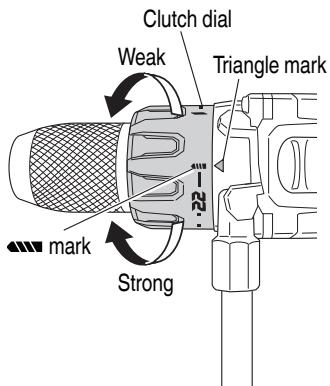

Fig. 16
7. Confirm the clutch dial position (See Fig. 16). <DS18DBL2>
(2) Tightening torque indication (See Fig. 16, 18)
(3) Adjusting the tightening torque (See Fig. 16, 18)